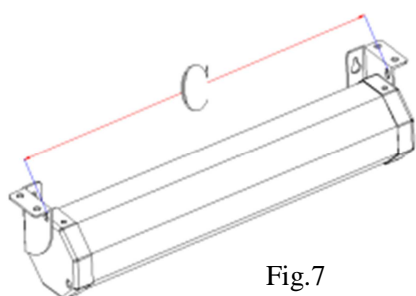

Fig.7
1. Measure distance C (shown in Fig. 7) between the holes on the top of both end caps with a measuring tape. Mark and then drill the screw holes on the ceiling.